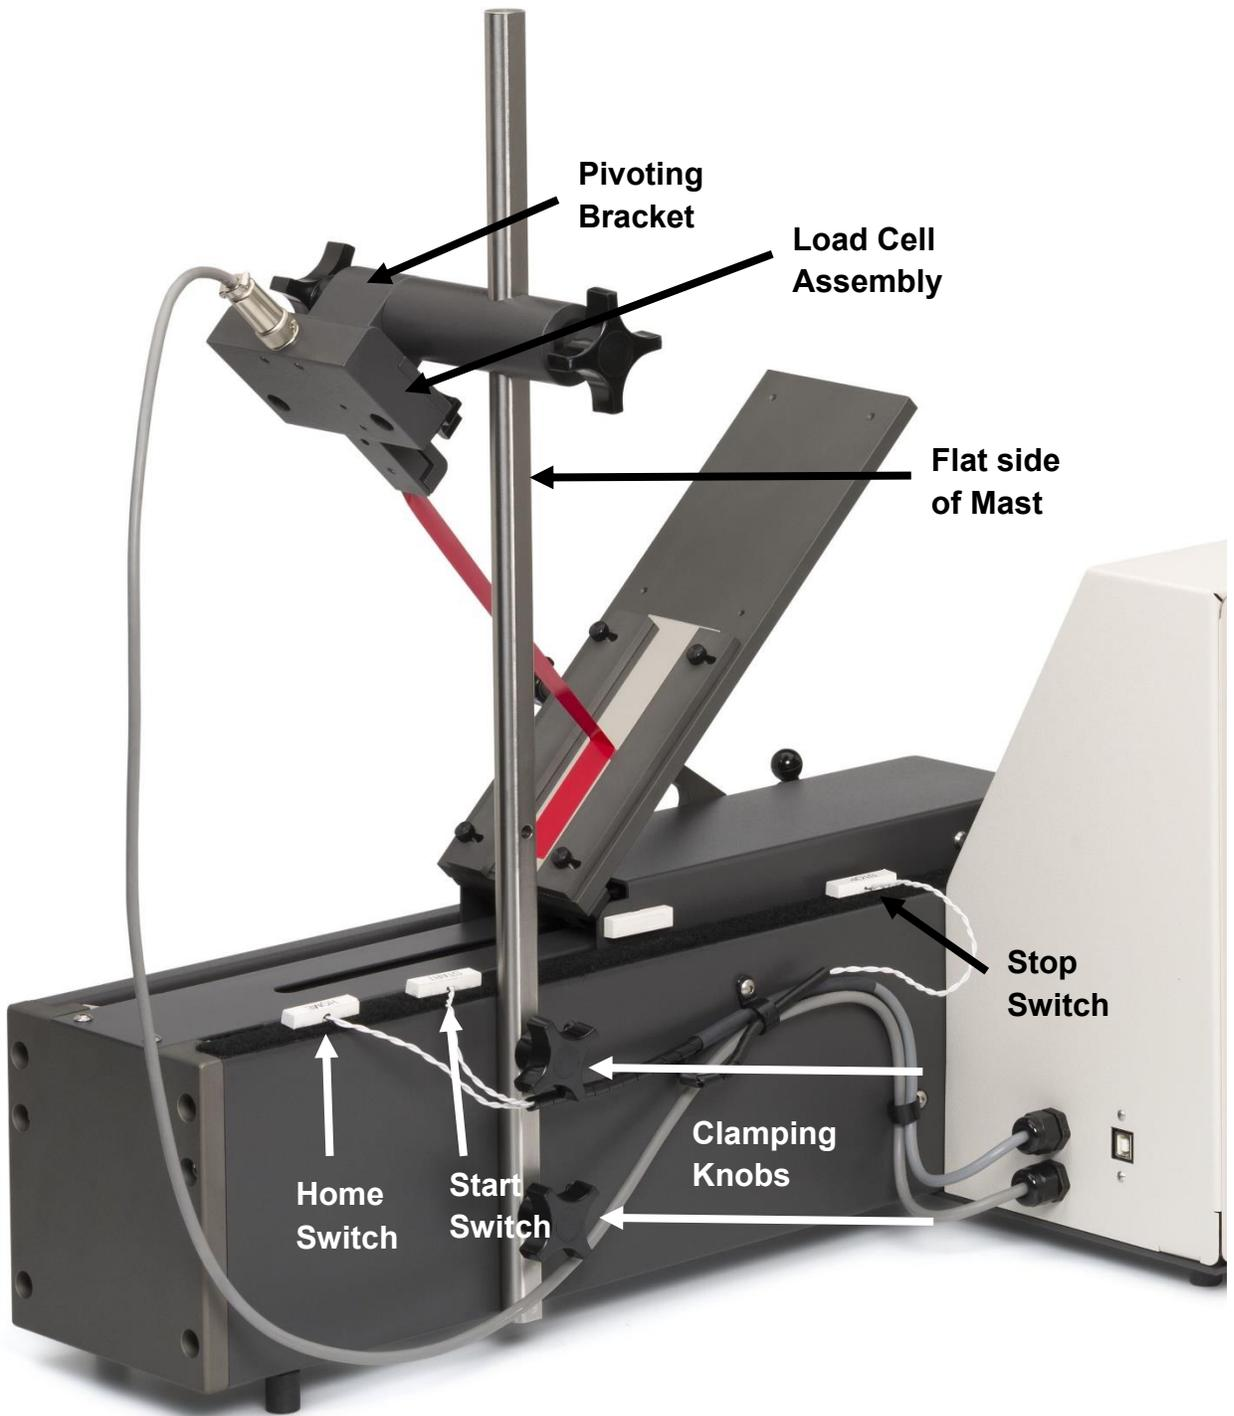

Figure 2
Attach the mast to the test frame using the small clamping knobs that are included. Make sure the mast is mounted with the flat side on the backside as shown in Figure 2. The attachment holes for the mast are located on the back panel of the test frame toward the left end of the frame when viewed from the back.
Slide the pivoting bracket with load cell assembly onto the mast and tighten the large clamping bolt that is part of the assembly. On the side panel of the AR-2000, one end of the load cell cable is permanently attached. Plug the free end of this cable into the socket on the load cell assembly. (See Figure 2)
One end of the control cable is also permanently attached to the side panel of the control cabinet. The free end of this cable terminates in three white reed switches, marked “Home”, “Start” and “Stop”. Each of these reed switches carries a piece of Velcro® fastener that is designed to attach to the fastener tape located on the back rail of the test frame. Attach the reed switch marked “Home” to this tape at the right end of the test frame. Attach the reed switch marked “Start” to this tape at a location approximately 2 inches to the left of the “Home” switch. Attach the reed switch marked “Stop” to this tape at a location approximately even with the side of the control cabinet. See Figure 2 for switch locations.
- **FUNCTION SWITCHES** control the start and stop of data acquisition. The “Home” switch cycles the data acquisition unit into its “ready” mode. The “Start” switch starts the data acquisition and the “Stop” switch stops the data acquisition. (See Figure 2)